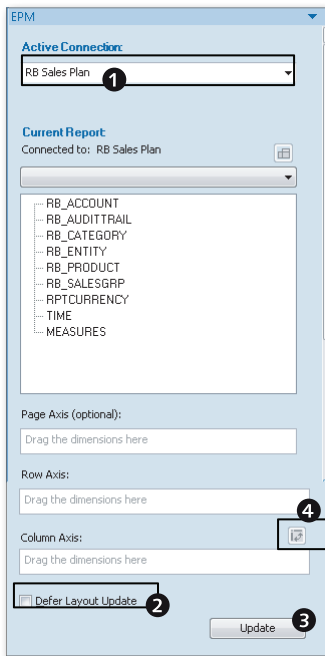

Figure 5.8 EPM Pane
The EPM pane displays the name of the active connection and the dimensions that belong to that model (Figure 5.8, ❶). You can drag the dimensions to the PAGE AXIS, ROW AXIS, and COLUMN AXIS to create a report.
When you add a dimension to a row or column, the report is automatically created and displayed in the Excel worksheet. You can check the DEFER LAYOUT UPDATE checkbox to postpone the update of the report (Figure 5.8, ❷). When this is checked, you can make the necessary changes to the dimensions selected in the PAGE AXIS, ROW AXIS, and COLUMN AXIS. During the course of the changes, the report is not updated. When you are ready to accept the changes, click on the UPDATE button (Figure 5.8, ❸). You can swap the dimension displayed in the Row Axis and Column Axis by clicking the SWITCH icon (Figure 5.8, ❹).